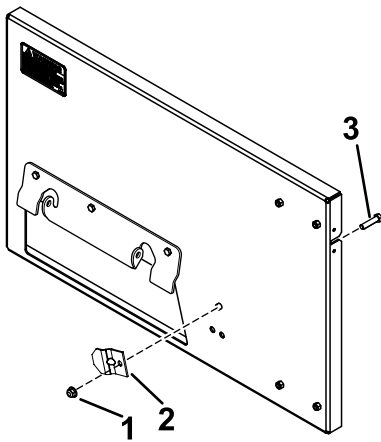

Figure 3
3. Install the clamp to the bagger and adapter with a bolt (3/8 x 3/4 inch) and locknut (3/8 inch); Figure 3.